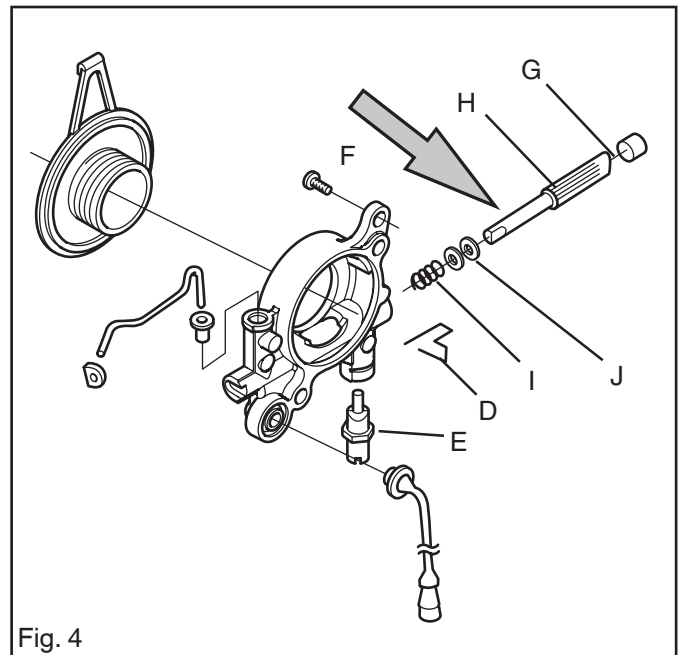

Fig. 4
6. Remove the clip (D) and unscrew the adjuster screw (E). See fig. 4.
7. Use a pair of pliers and push on the pump piston at (F) so that the cover plug (G) and pump piston (H) can be removed. See fig. 4.
8. Use a pair of pliers and pull out the spring (I) and the 2 washers (J). See fig. 4.